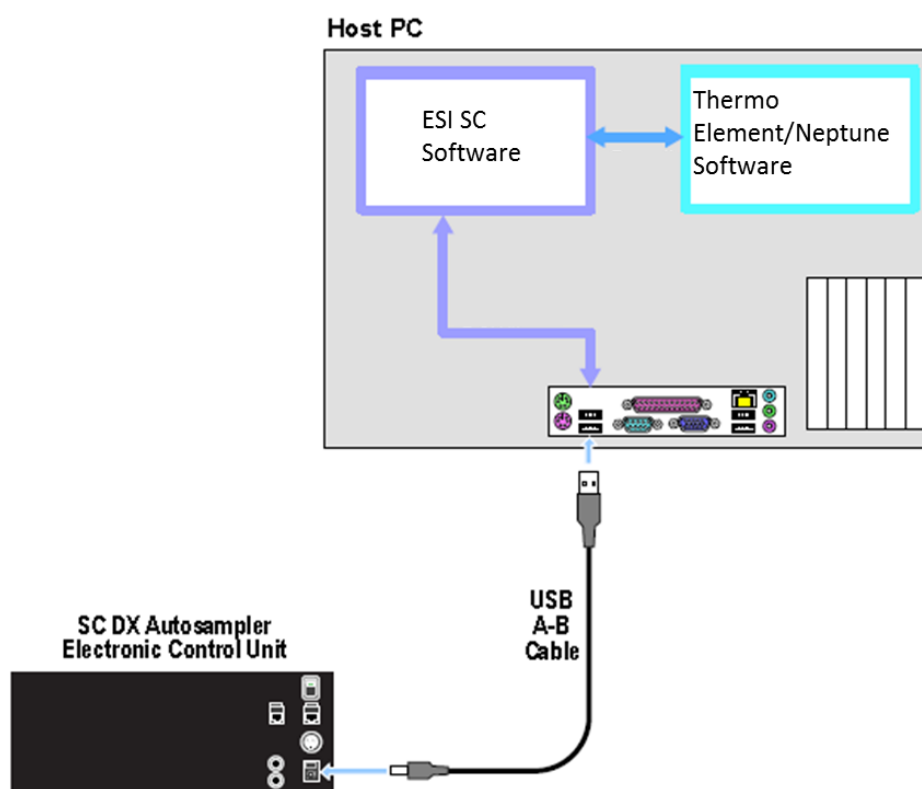

Figure 33: Connection options for Element/Neptune and ESI SC with SC autosampler.
- 2) Connect the USB cable from the computer to the SC Autosampler. See Figure 33. Connect 24 VDC power to the SC Autosampler.